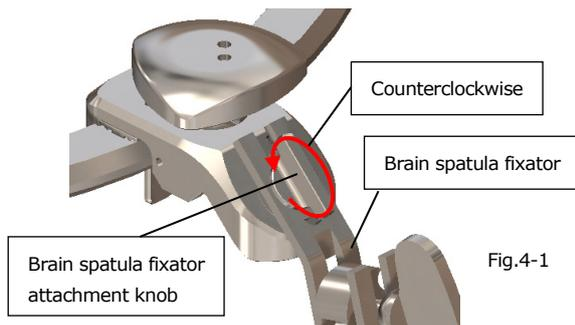

Fig.4-1
(4)-2 Rotate the brain spatula fixator attachment knob counterclockwise to release the fixation. Before loosening, hold the brain spatula fixator (Fig.4-1).